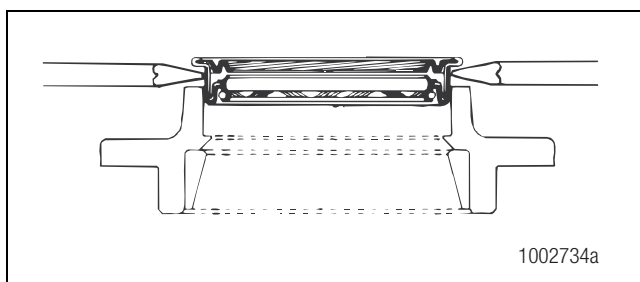

Figure 3.29
2. Pry under the oil seal flange to remove the oil seal from the input bearing cage. Discard the oil seal. Figure 3.29.